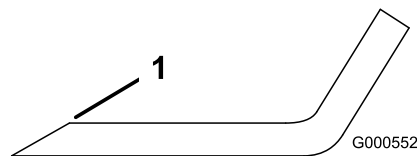
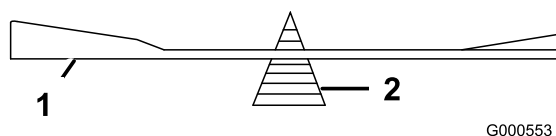

Figure 40
Figure 41
1. Use a file to sharpen the cutting edge at both ends of the blade (Figure 40). Maintain the original angle. The blade retains its balance if the same amount of material is removed from both cutting edges.
2. Check the balance of the blade by putting it on a blade balancer (Figure 41). If the blade stays in a horizontal position, the blade is balanced and can be used. If the blade is not balanced, file some metal off the end of the sail area only (Figure 40). Repeat this procedure until the blade is balanced.